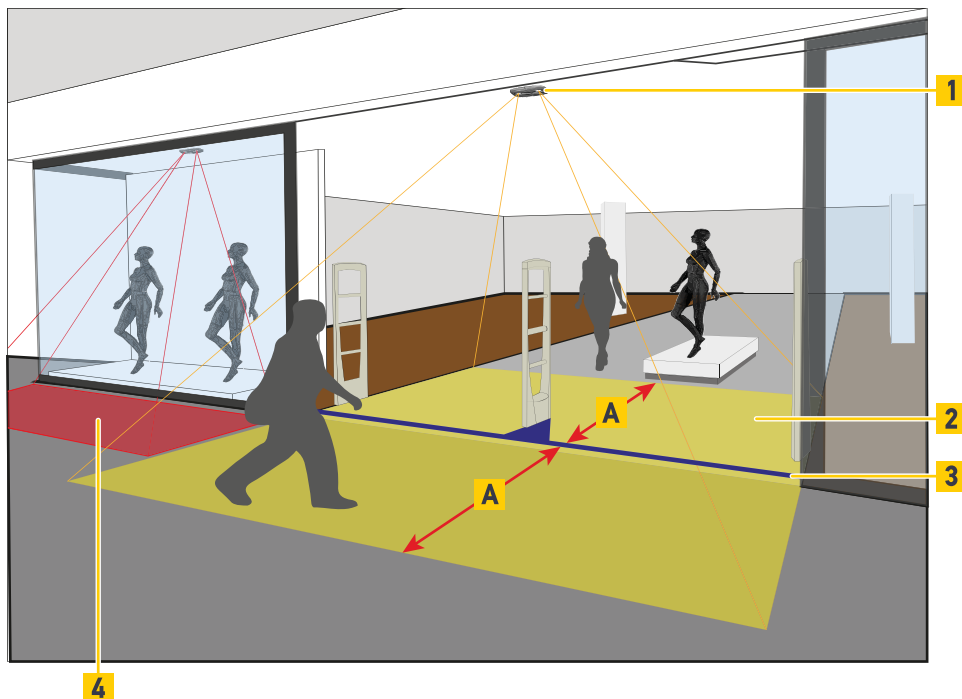

Fig. 10: Mounting position
- As much as possible, the monitored area (Fig. 10 /2) must be free of interfering objects.
- Place the device (Fig. 10 /1) above the end of the door swing area, because the counting lines must be set around that door swing area.
- Place the device at least 30 to 50 cm (11.8 to 19.7 in) away from a wall with sliding doors, because a minimum clearance of 30 to 50 cm (11.8 to 19.7 in) (Fig. 10 /A) must be observed between the counting lines (Fig. 10 /3) and the entrance for tracking people.
- For counting line applications there must not be any point of interest (Fig. 10 /4) in the counting area, i.e. no place where people are encouraged to linger (sales counter, coat stands, info stands, etc.), because tracking may be lost e.g. due to persons bending down or interacting with objects